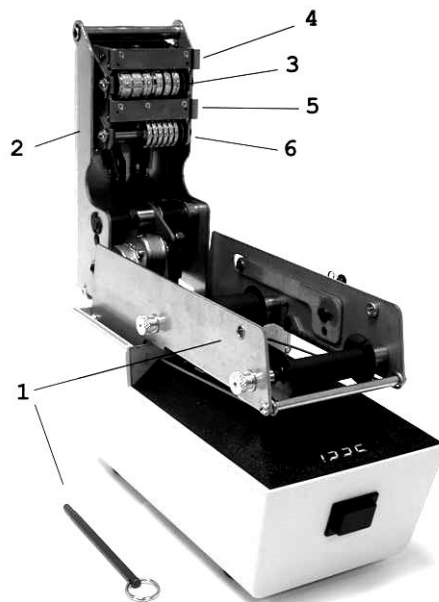

Figure 2
3. Remove the frame locking pin (Figure 2, Number 1). Lift the top frame (Figure 2, Number 2) to access time and date type wheels (Figure 2, Number 3) and number type wheels, if applicable.
4. Depress the time type setting lever (Figure 2, Number 4). Using a small screwdriver or similar tool, rotate each individual date and time type wheel down to the correct date and time. (**Note:** Month and date type wheels must be reset manually the first day of each month.)
5. Depress the number type setting lever (Figure 2, Number 5) and rotate the number type wheels (Figure 2, Number 6) to the correct position.
2. Remove the top cover. Remove the frame locking pin and lift the top frame (as described on Page 6, Figure 2).